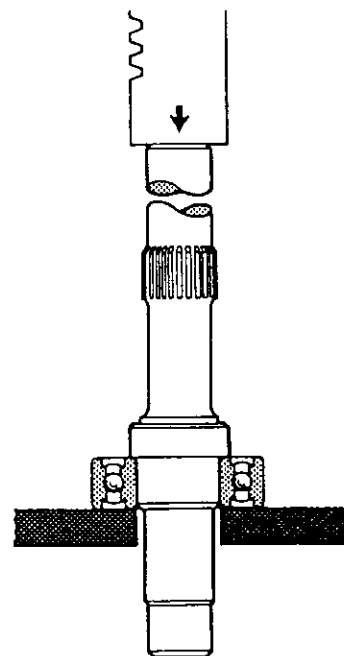

Figure 5.17
2. With air motor muffler flange clamped in vise, place a new gasket (3) and O-ring (2) in correct position on lower end plate. Position gear case (4) on lower end plate according to scribe marks, install six gear case screws (6) and lockwashers (5), and torque to 141 - 171 in. lbs. (15.9 to 19.3 N·m).
4. Press a new drive shaft bearing (10) onto drive shaft (28), as shown in Figure 5.17.